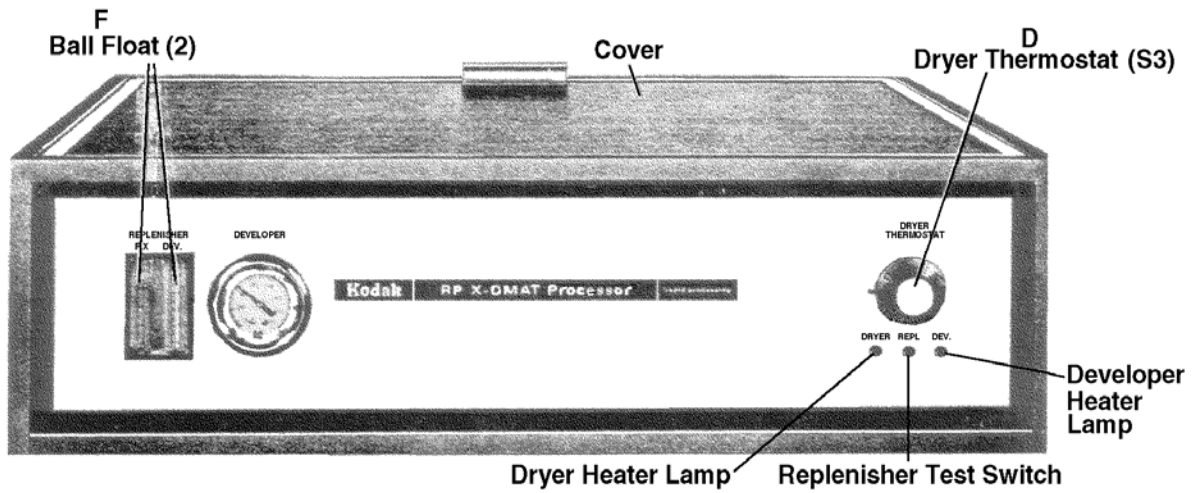

Figure 3-4. Replenisher switch and ball floats.
- b. Energize the replenisher switch (D). Refer to figures 3-4 and 3-5.
(1) Compare the level reached by the ball float with the guide on the replenishment chart.
(2) Use the center of the ball floats for calibrating.
(3) If an error exists in either the developer or fixer replenishment rate, rotate the appropriate replenisher valve (E) until the ball float (F) setting reaches its proper level.